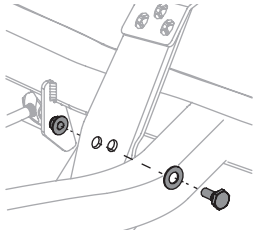

Figure 36
2. Remove the hex bolt, washer and hex nut near the center of the pedal assembly. See Figure 36.
4. Re-install the hardware previously removed and torque the nut to 28-35 ft-lbs (38-47 N-m). See Figure 36.